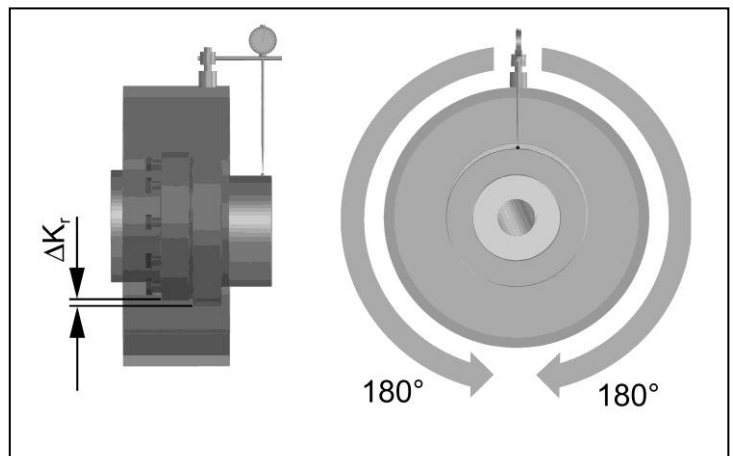

Fig. 7
- Measure a complete rotation (360°). Determine in this case the greatest deviation ΔK_{r1} as well as the smallest deviation ΔK_{r2} (Figure 7).